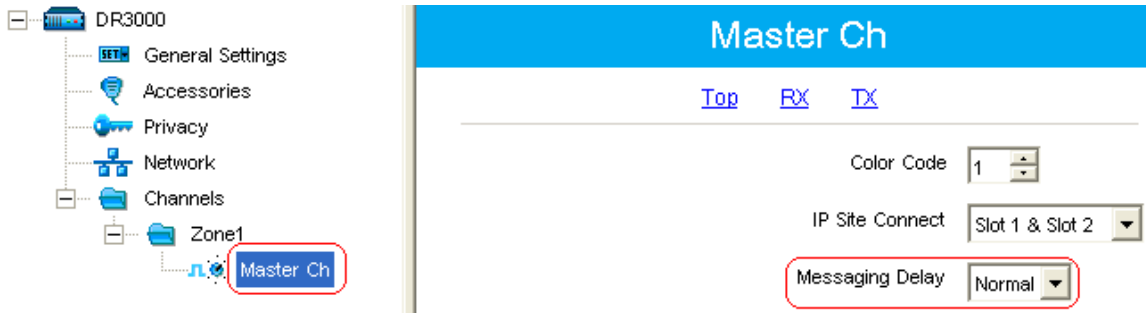

Figure 9.6
- 8) The repeaters and radios in an IP Site Connect system need to take account of the messaging delays introduced by the IP network. Where the maximum IP network delay (due to propagation, serialisation and handling) is less than 60ms, the Messaging Delay for the repeater channel(s) should be set to 'Normal' as shown in Figure 9.6 below. Where however the maximum IP network delay is between 60 and 90ms, the Messaging Delay for the repeater channel(s) should be set to 'High'.